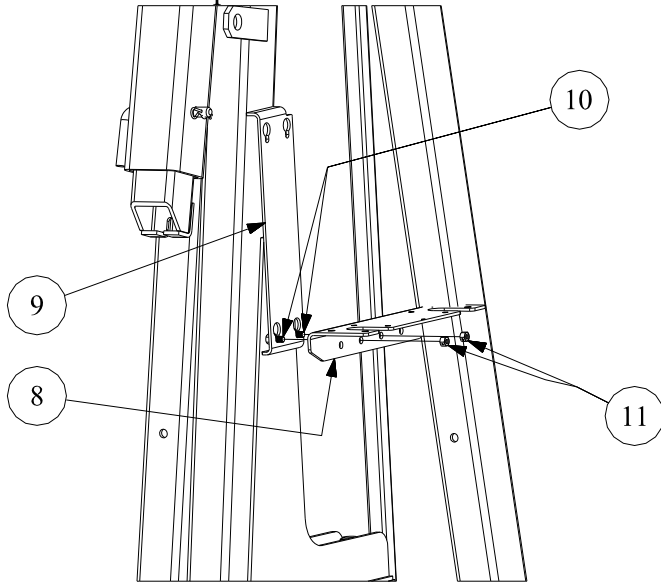

Figure 4
1. Attach the pump bracket [#8] to the bracket [#9] on the side of the crane using two 3/8" X 3/4" flange head bolts [#10] and two 3/8" nuts [#11] as shown in Figure 4. Be sure to attach the pump bracket [#8] to the bottom set of keyhole slots in the bracket [#9].